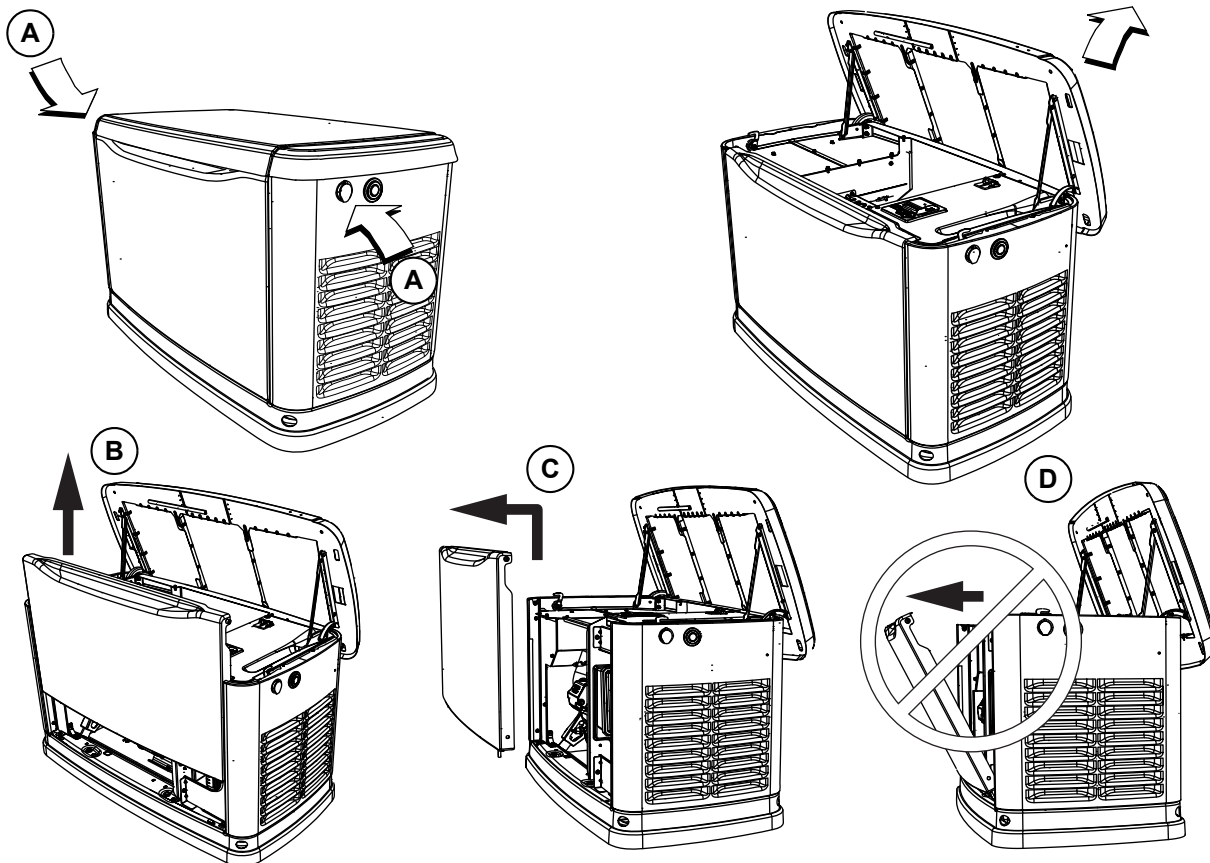

Figure 2-4. Side Lock Location and Front Panel Removal
3. Two locks secure the lid; one on each side (A in Figure 2-4). Press down on the lid above the side lock, and unlock the latch to properly open the lid.
NOTE: Always lift the front access panel straight up before pulling away from enclosure (B and C in Figure 2-4). Do not pull the panel away from the enclosure before lifting up (D in Figure 2-4).